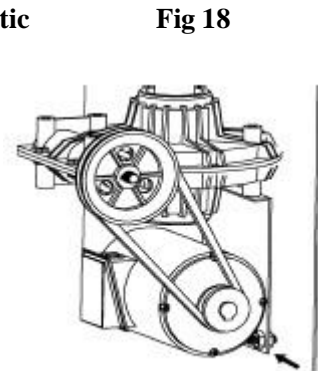

Fig 18
Note: After the first 20 days of use, tighten the jaws with the screws (B) on the turntable (Fig 18).